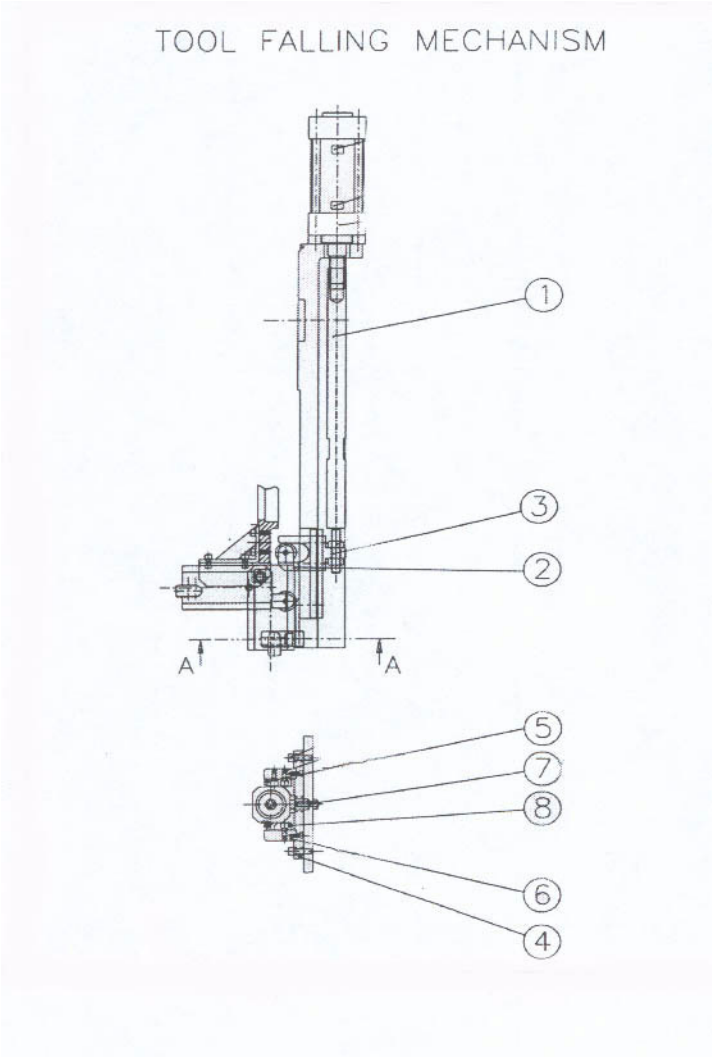

Figure 5-16 Tool Falling Mechanism
- 20) Check the distance between the O.D. of the tool holder to the O.D. of the spindle fixture, using the through holes, and split the difference between the side to side readings. See Figure 5-16, positions 4, 5, 6 and 7.